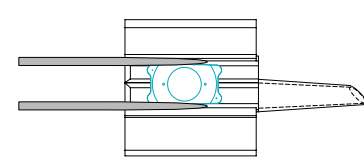

Figure 6
6. Press the ICL into both guide rails with forceps. This usually requires starting one long edge of the ICL under one rail and rolling the wrist to position the opposite side of the ICL under the other rail. Gently slide the ICL back and forth horizontally to ensure that it moves freely (Figure 6).